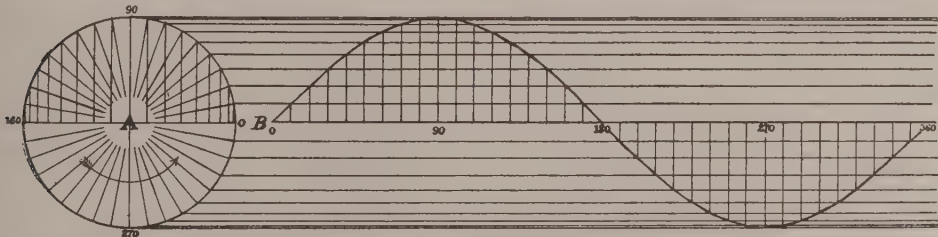
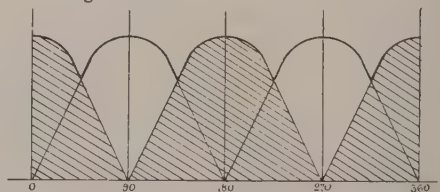

FIG. 10.
FIG. 13.
It is found that this induction follows a certain law, and varies as the "sine of the angle of rotation," when field and motion are uniform; therefore, maxima will occur at 90 degs. and 270 degs. in every revolution. By plotting out a "curve of sines" we are able to represent graphically the condition of conductor A at any point in its revolution. Let the circle A (Fig. 10) be divided into sections of, say, 10 degs. each, and a base line (B) prepared equal in length to the circumference of A, this also being divided into an equivalent number of sections. A series of heights are marked over the base line (B) corresponding to the height which that particular angle makes measured vertically from the centre line of A, and a curve is drawn through the points so marked. This wave form thus obtained is a true sine curve, and represents the instantaneous value of the E.M.F. at any point of the revolution. The curve also shows the E.M.F. induced to be alternating in direction. It could not well be otherwise, for any variation in one direction must necessarily have a limit. Every continuous current dynamo must first generate an alternating potential in its armature, which it is the function of the commutator to rectify or "commute" into one direction at the terminals.
To accomplish this another coil or series of coils must be added to the armature, and so arranged that when one coil is going out of action another is coming in. Fig. 13 shows the effect of adding another coil on the armature at right angles to the first. Being separated one quarter of the armature circumference, their periods of maximum activity will occur 90 degs. apart on the base line B, Fig. 10*, and we get a double series of curves, the peaks of the second set in a large measure filling up the depressions between the first. But still the current is undu-